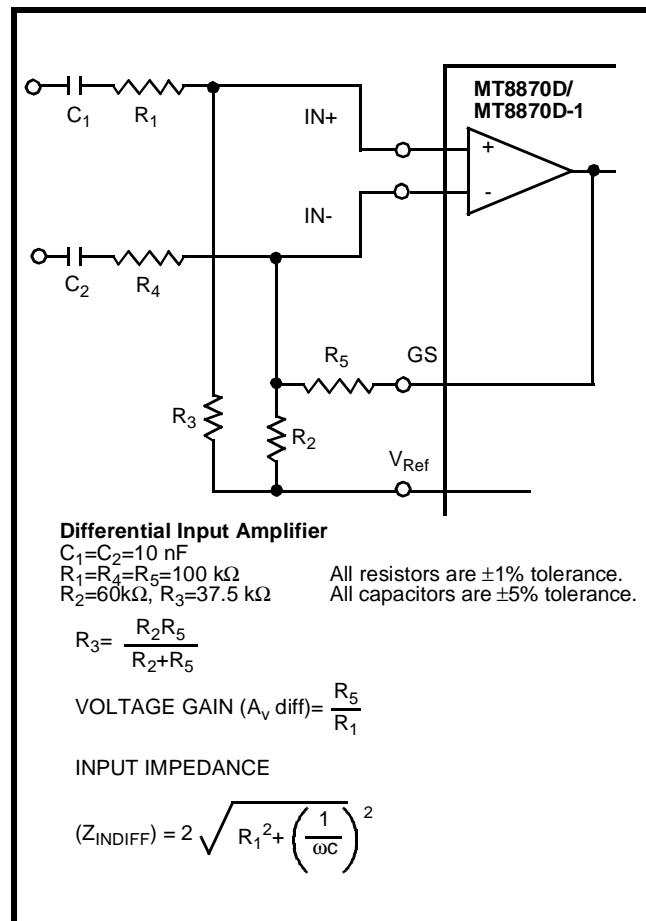

Figure 6 - Differential Input Configuration
The input arrangement of the MT8870D/MT8870D-1 provides a differential-input operational amplifier as well as a bias source (V_{Ref}) which is used to bias the inputs at mid-rail. Provision is made for connection of a feedback resistor to the op-amp output (GS) for adjustment of gain. In a single-ended configuration, the input pins are connected as shown in Figure 10 with the op-amp connected for unity gain and V_{Ref} biasing the input at $1/2V_{DD}$. Figure 6 shows the differential configuration, which permits the adjustment of gain with the feedback resistor R_5 .